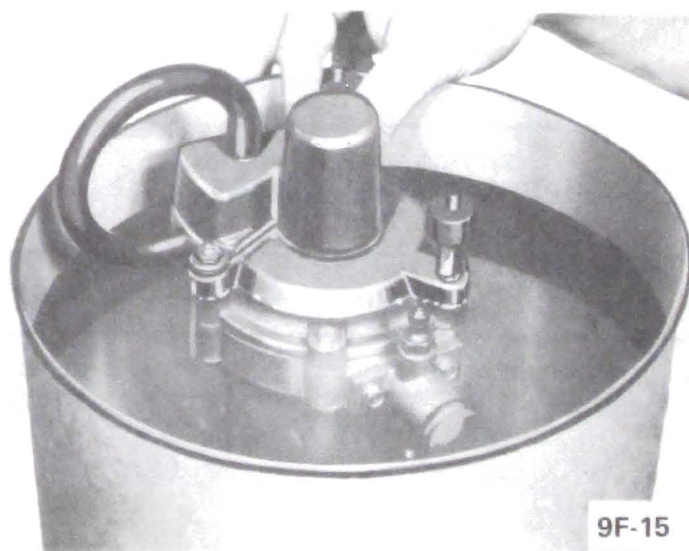

Figure 9F-16 - Checking Compressor, Reservoir Tank and Regulator for Leaks
3. Route an 8" piece of rubber hose between vacuum and vent ports. See Figure 9F-16.